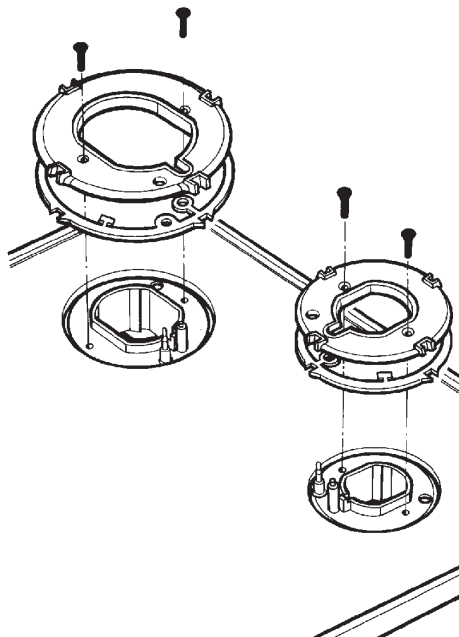

Fig. 15
- 22.** Attach two fixing discs to the hob using 4 (M3) fitting screws (2 for each burner). (See Fig. 15). You will notice that the burner bowls move upward toward the glass surface as the screws are tightened. To ensure that the burner bowls are lifted evenly, it is recommended that the screws be tightened in turn, rotating not more than two turns at a time until tight.